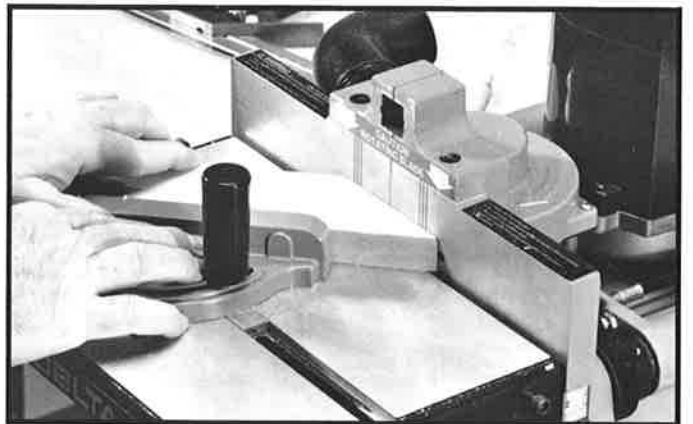

Fig. 48
2. Cut the biscuit slot in the second piece, as shown in Fig. 48, in the same manner as in **STEP 1** with the “good” or face side of the board against the table.